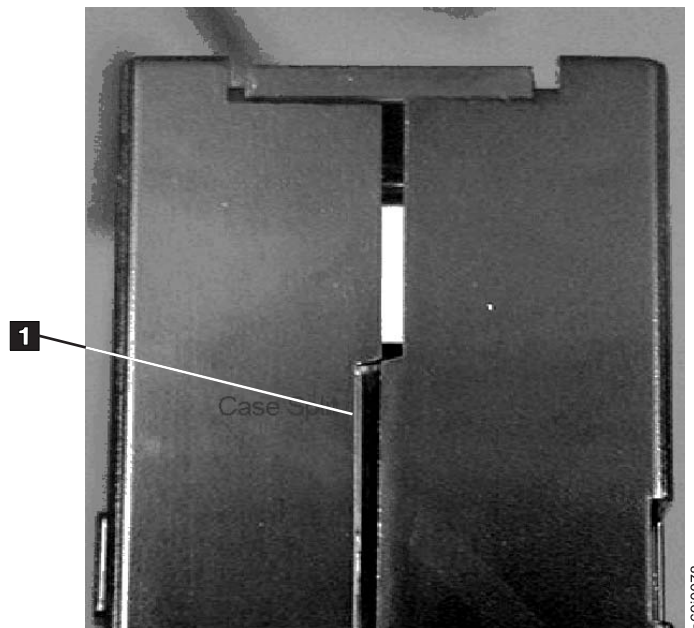
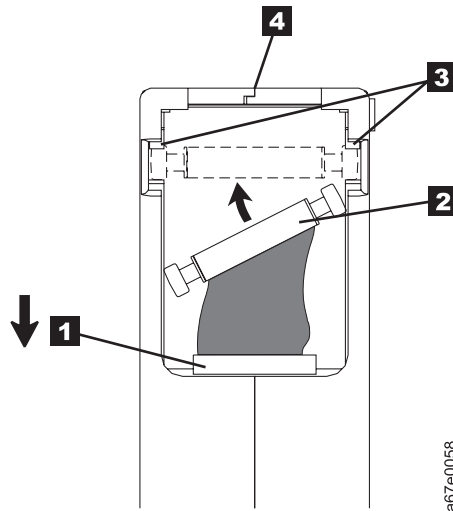

Figure 5-7. Checking for gaps in the seams of a cartridge
Figure 5-9. Placing the dislodged leader pin into the correct position
- Inspect the rear of the cartridge (the part that loads first into the tape load compartment) and ensure that there are no gaps in the seam of the cartridge case (1 in Figure 5-7 and 4 in Figure 5-9 on page 5-13). If there are gaps in the seam (see Figure 5-7), the leader pin may be dislodged. Go to “Repositioning or Reattaching a Leader Pin” on page 5-11.
### Example: Split Cartridge Case (see Figure 5-7)
1. Slide open the cartridge door (**1** in Figure 5-9) and locate the leader pin **2** (you may need to shake the cartridge gently to roll the pin toward the door).